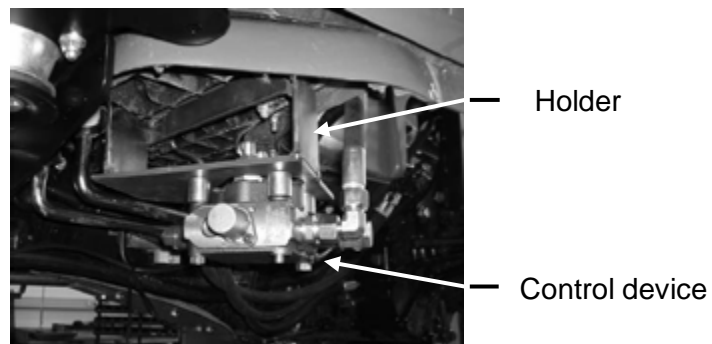
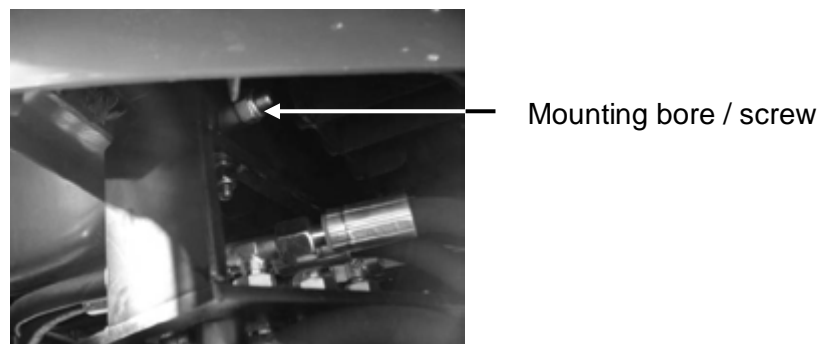

Fig 20: Control device, attachment position
Fig 21: Fastening the control device
1. Fasten the control device below the right fender as shown in Fig 20. To do this it is necessary to drill an 8.5 mm bore. The position of the bore is shown in Fig 21. For marking, we recommend using the holder as a drilling template. The other two mounting bores are already present in the tractor fender and you do not need to drill these bores yourself.